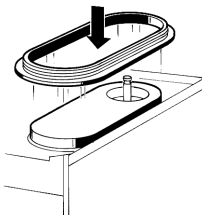

figure 6
- 4 Fit the bowl gasket to the evaporator. Note: the largest brim of the gasket must face against the drip plate (see figure 6).